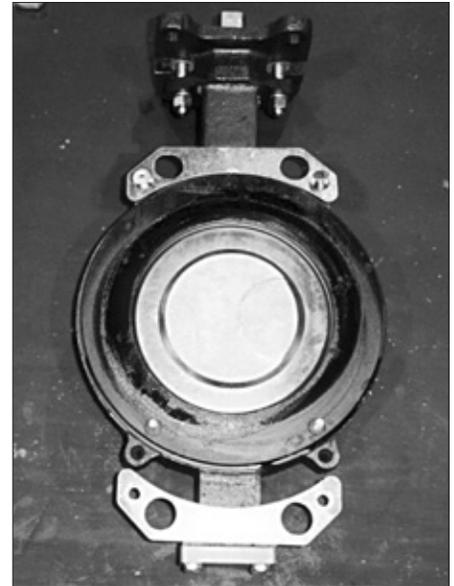

Figure 3 - Seat retainer ring and parts.
Remove the seat retainer ring (23) by removing the hex socket screws (24) from the seat retaining ring for the lugged or double flanged body, or the hex socket flat head screws (24) from the locating plates (26) and/or clips for the wafer body. (see Figure 3)